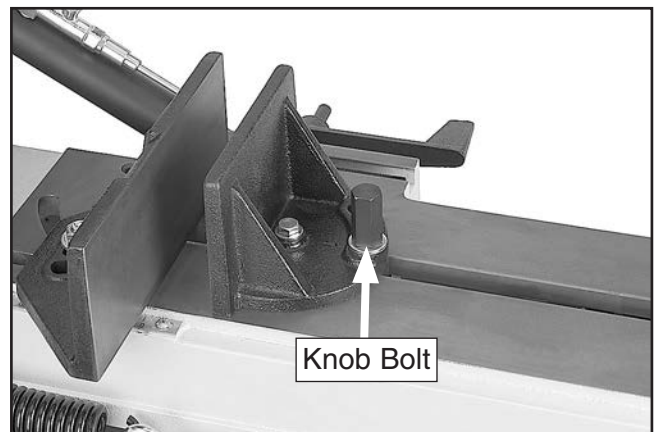

Figure 46. Vise jaw knob bolt.
7. Loosen knob bolt in **Figure 46** on opposite jaw so jaw can float, and match angle of workpiece.